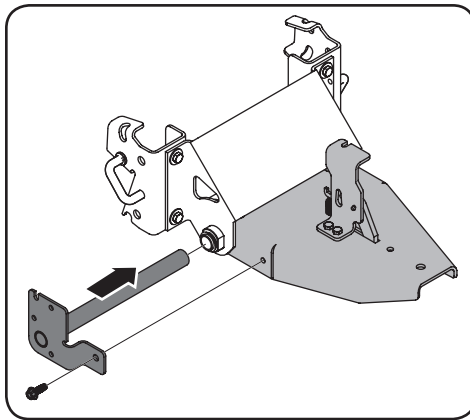

Figure 2-9
1. Place large mounting bracket assembly onto blade tongue assembly. Slide SHF assembly (689-00667) into mounting holes, and secure with self-tapping screw (710-04683C) found in hardware pack 5 (689-00688). See Figure 2-9.